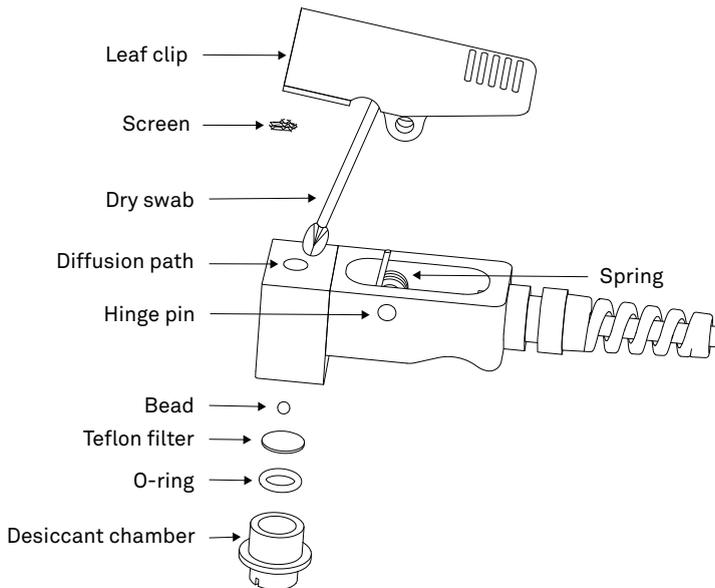

Figure 56 Thorough cleaning of the diffusion path
The sensor block may become contaminated with sap and leaf exudates that can lead to inaccurate conductance measurements. This type of contamination often cannot be removed with a quick cleaning. Instead, follow steps 1 through 20 for a more thorough cleaning (Figure 56). A short video of this procedure is at metergroup.com/environment/articles/sc1-leaf-porometer-repair/.
1. Remove the desiccant chamber (Figure 56).